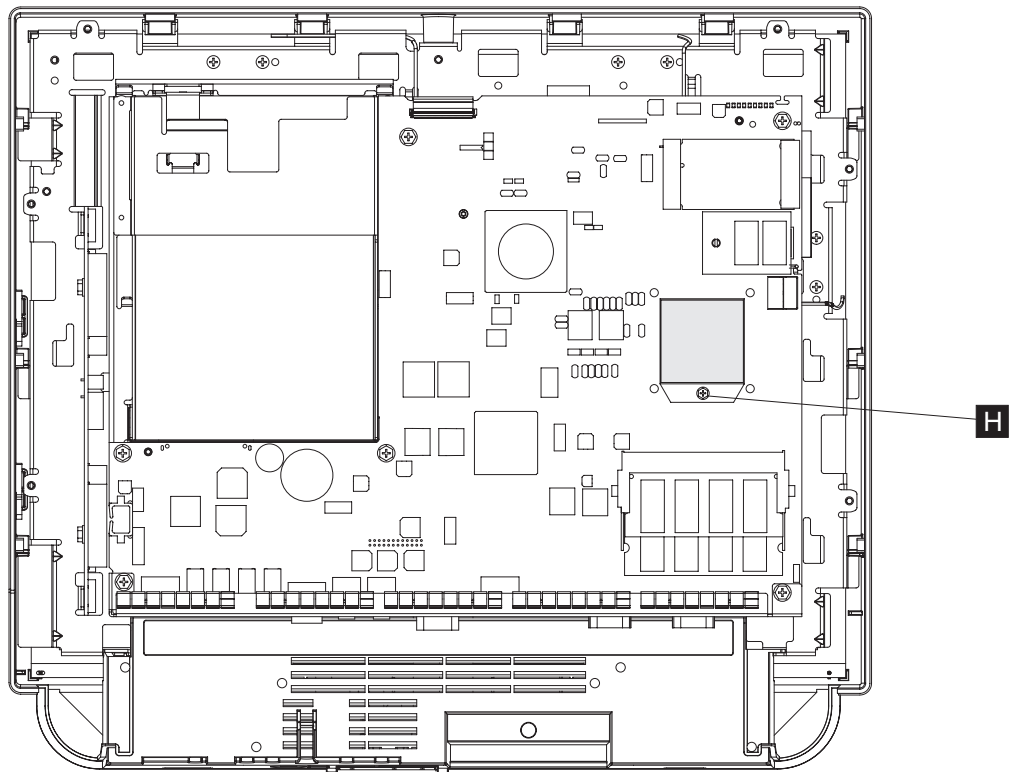

Figure 25. Removing the processor
3. Using a small flat-blade screwdriver, turn the screw (**H** in Figure 25) that holds the processor 180° (one-half turn) to release it.